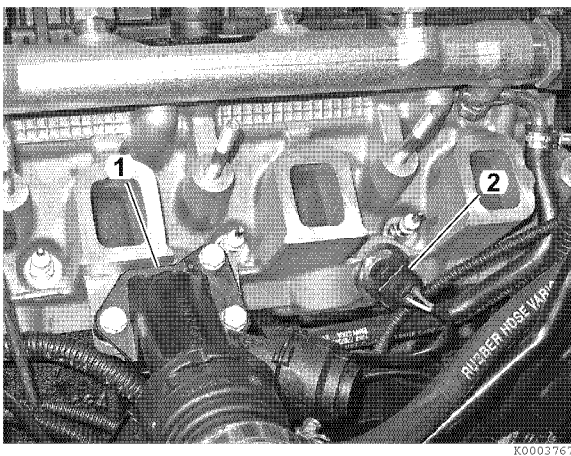

Figure 5-42
11. Connect harness connector to temperature sensor (2, **Figure 5-42**).
12. Install coolant branch fitting (1, **Figure 5-42**) with a new seal and tighten bolts.